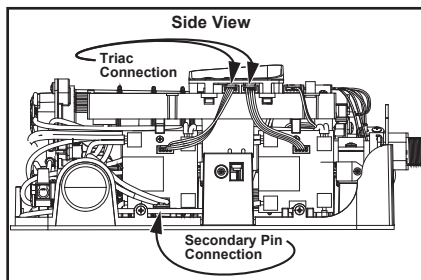

Figure 48 - Triac(s) and secondary pin connection.
- 5 Disconnect the triac connections from the control board and the secondary pin connection from the lower triac. See Figure 48.
- 5 Reconnect the triac harnesses to the control board and the secondary pin connection. See Figure 48.